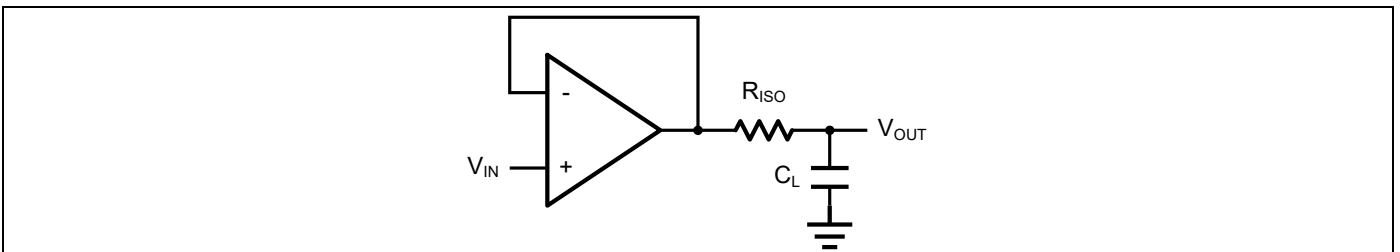
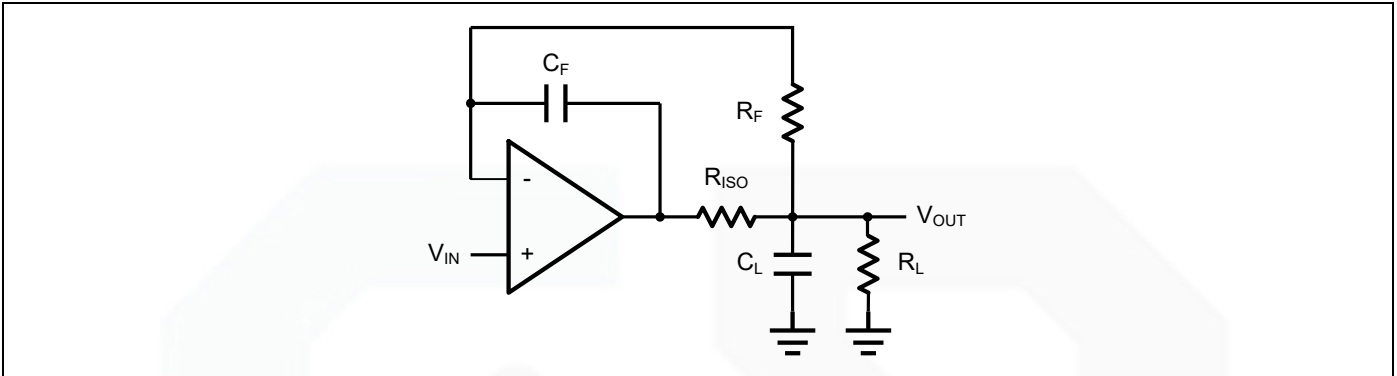

Figure 2. Indirectly Driving a Capacitive Load Using Isolation Resistor
Figure 3. Indirectly Driving a Capacitive Load with DC Accuracy
The GS321B/358B/324B family is optimized for bandwidth and speed, not for driving capacitive loads. Output capacitance will create a pole in the amplifier's feedback path, leading to excessive peaking and potential oscillation. If dealing with load capacitance is a requirement of the application, the two strategies to consider are (1) using a small resistor in series with the amplifier's output and the load capacitance and (2) reducing the bandwidth of the amplifier's feedback loop by increasing the overall noise gain. Figure 2. shows a unity gain follower using the series resistor strategy. The resistor isolates the output from the capacitance and, more importantly, creates a zero in the feedback path that compensates for the pole created by the output capacitance.
The circuit in Figure 3 is an improvement to the one in Figure 2. R_F provides the DC accuracy by feed-forward the V_{IN} to R_L . C_F and R_{ISO} serve to counteract the loss of phase margin by feeding the high frequency component of the output signal back to the amplifier's inverting input, thereby preserving the phase margin in the overall feedback loop. Capacitive drive can be increased by increasing the value of C_F . This in turn will slow down the pulse response.